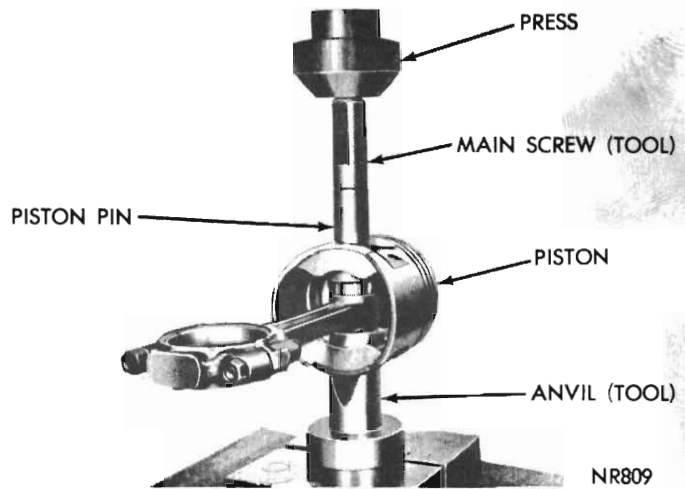

Fig. 41 - Installing piston pin (Tool E9C50B)
(9) Install the nut on main screw to hold assembly together. Place assembly on a press (Fig. 41).
(10) Press in the piston pin until it bottoms on the pilot, correctly positioning the pin in the connecting rod.